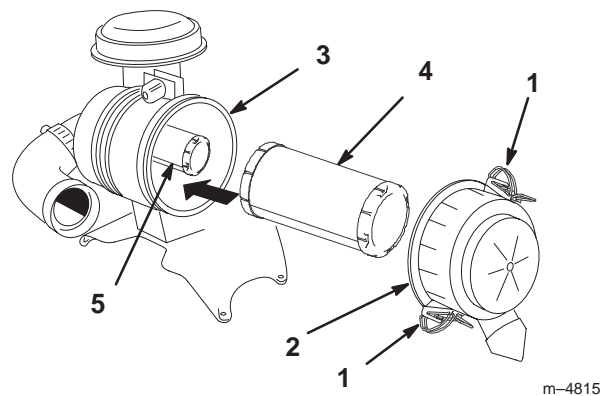

Figure 35
3. Release the latches on the air cleaner and pull the air cleaner cover off of the air cleaner body (Fig. 35).
5. Gently slide the primary filter out of the air cleaner body (Fig. 35). Avoid knocking the filter into the side of the body.
2. If the safety filter is being replaced, carefully slide it into the filter body (Fig. 35).
3. Carefully slide the primary filter over the safety filter (Fig. 35). Ensure that it is fully seated by pushing on the outer rim of the filter while installing it.
4. Install the air cleaner cover with the side indicated as UP facing up and secure the latches (Fig. 35).